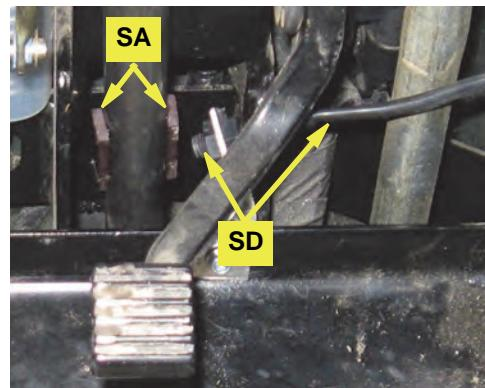

Figure 2: Attached magnets and installed sensor
- a. Mix epoxy **SB** as directed on the package then attach both magnets **SA** to the cleaned steering shaft 180° apart. Align the center of each magnet with the center of the sensor hole in the sensor bracket (Figure 2).
- b. Install the steering sensor **SD** in its bracket. Set the sensor tip 1/8" to 1/4" from the magnets (Figure 2). (You will connect **SD** to the ECU in the next section).